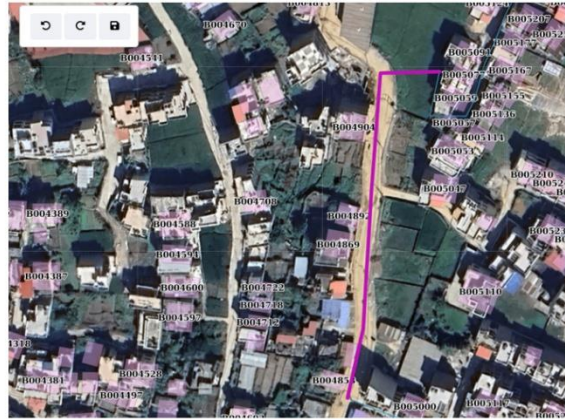

Figure 14- 16 Spatial information of new sewer section
- First, the sewer line is pre-selected based on the code (refer to Figure 14- 16).